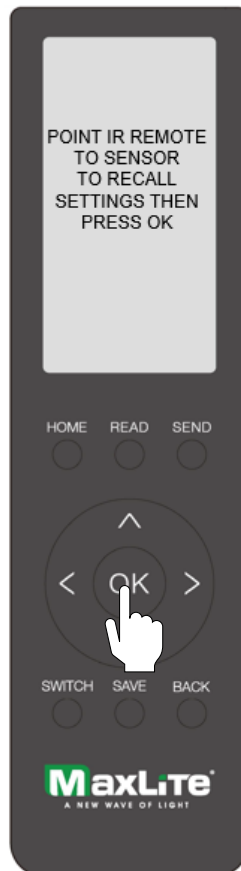

Fig 3B
2. The screen will prompt you to point the RF-REMOTE at a sensor to recall settings and press **OK**. (Fig 3B).